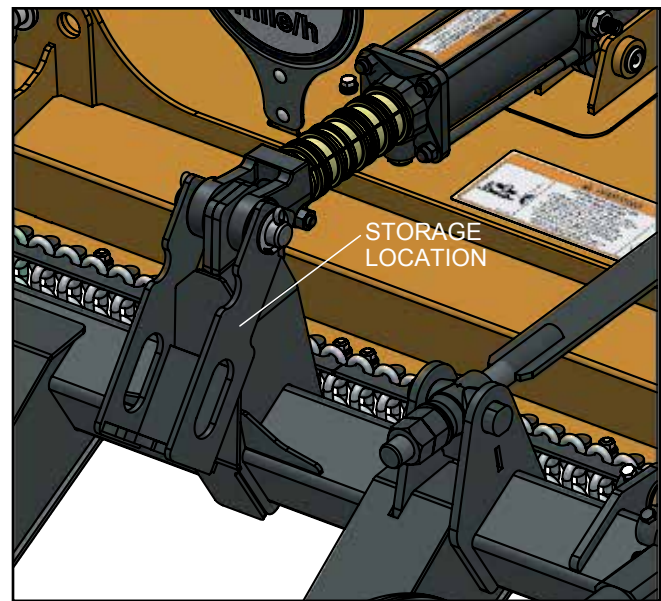

Figure 5. Transport Lock in Operation Position
3. To lower cutter for operation, extend the hydraulic cylinder to raise the cutter. Flip the stop back to storage position. (Figure 5).